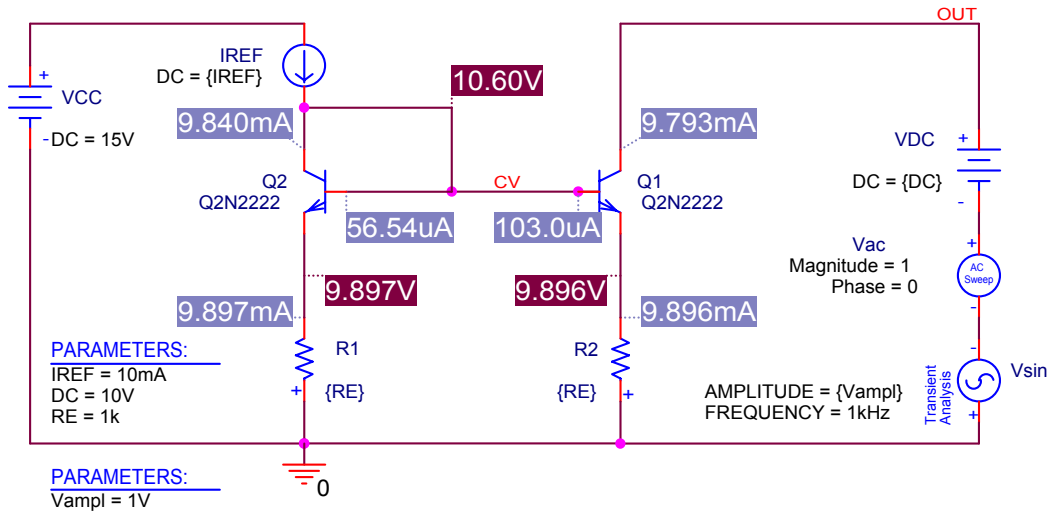
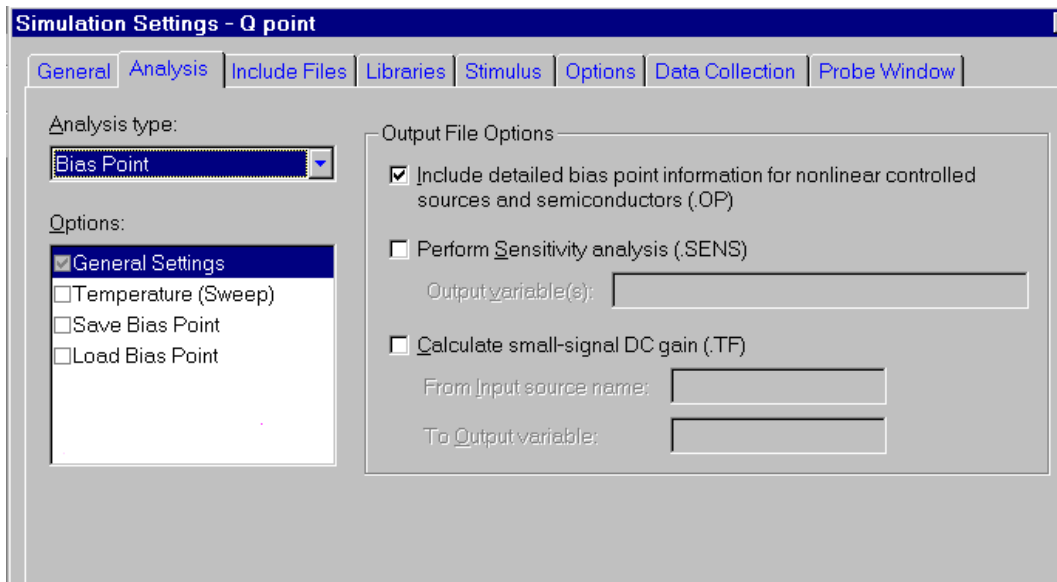

FIGURE 1:
FIGURE 4:
Figure 1 shows the schematic of a current mirror that we want to create. To get started you will have to read pp. 1-44 in Herniter, *Schematic Capture with Cadence PSPICE*. These pages describe how to open the program, select and wire parts.
We will use the circuit shown in the schematic of Figure 1 to illustrate a number of different types of PSPICE simulation.. Click on any figure label to jump to that figure.
1. Q-point (called a BIAS POINT SIMULATION) (Bias values determined as shown in Figure 1)
To obtain the Q-point values shown in Figure 1 we first run a simple Q-point analysis by selecting PSPICE/ NEW SIMULATION PROFILE and choosing the ANALYSIS TYPE as BIAS POINT. I chose "Q-point" for the name of this SIMULATION PROFILE. The simulation settings are shown in Figure 4 below.
PROBE plot of DC *I-V* curve for the current mirror in Figure 1 using PASTE SPECIAL/PICTURE (macro Ctrl+P). This figure is not WYSIWYG (*what you see is what you get*). Compliance voltage label is added in WORD.
PROBE plot for current mirror in Figure 1 using PASTE SPECIAL/DEVICE INDEPENDENT BITMAP (macro Ctrl+D). This figure is WYSIWYG.